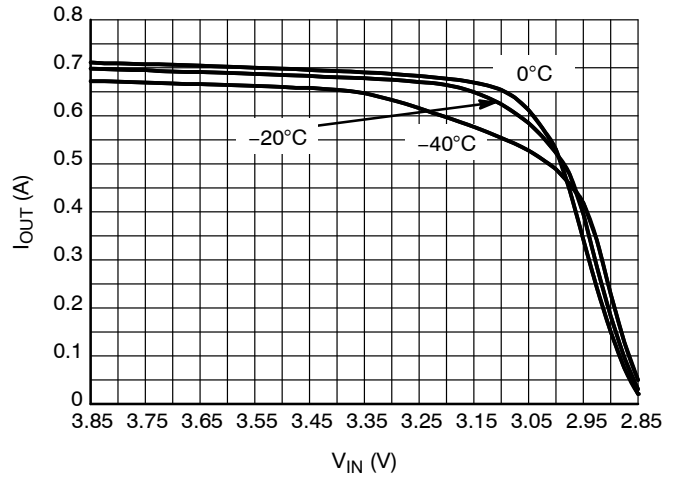

Figure 18. Output Current Capability for the 2.85 V Version
32. For output current capability for  $T_A < 0^\circ\text{C}$ , please refer to Figures 18 to 22.